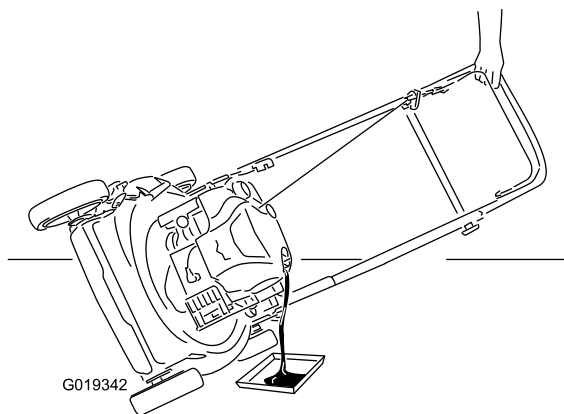

Figure 42
7. Tip the machine onto its side, with the oil-fill tube down, to drain the used oil out through the oil-fill tube into the oil-drain pan (Figure 42).